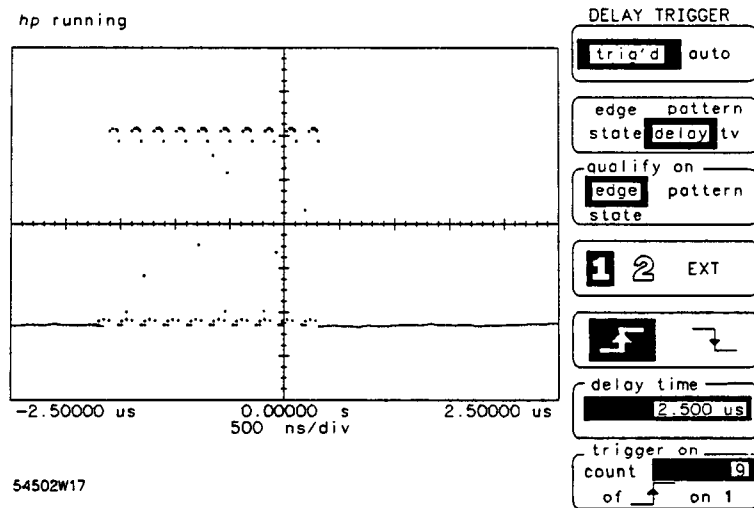

Figure 6-16. Ten Burst Pulse Triggered on Pulse 9
- Change the trigger on count key to 9 (see Figure 6-16).